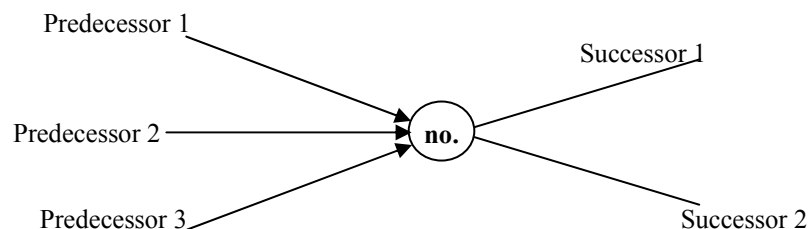

Figure 4.3: A node in an AOA network
Each node in the network, in fact, is a point at which some activities end (head arrows coming into the node), as shown in Figure 4.3. That node is also a point at which some activities start (tail arrows of successor activities). Certainly, all successor activities can start only after the latest predecessor is finished. Therefore, for the forward path to determine the early-start (ES) time of an activity, we have to look at the head arrows coming into the start node of the activity. We then have to set the activity ES time as the latest finish time of all predecessors.